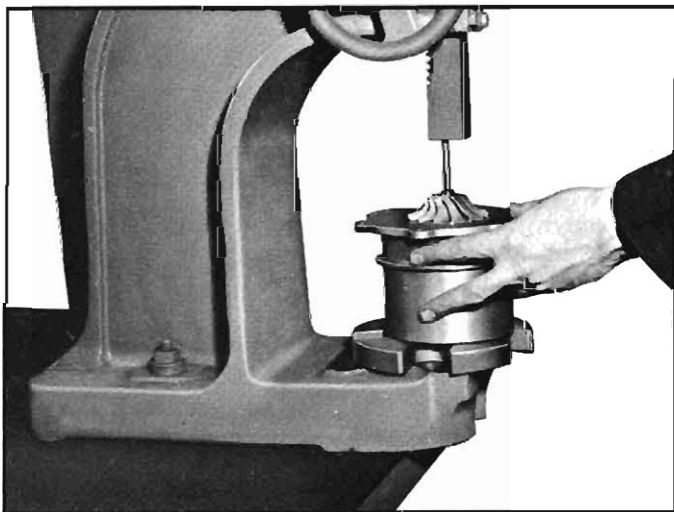

Fig. 9-44—Pressing Turbine Shaft from Impeller
3. Support the supercharger in a press (using parallel blocks or support ring Tool J-21004, Figure 9-44) with the impeller wheel upward.
5. Place a 1/4" diameter brass rod on the end of the turbine shaft (fig. 9-44) and press turbine shaft from impeller wheel.